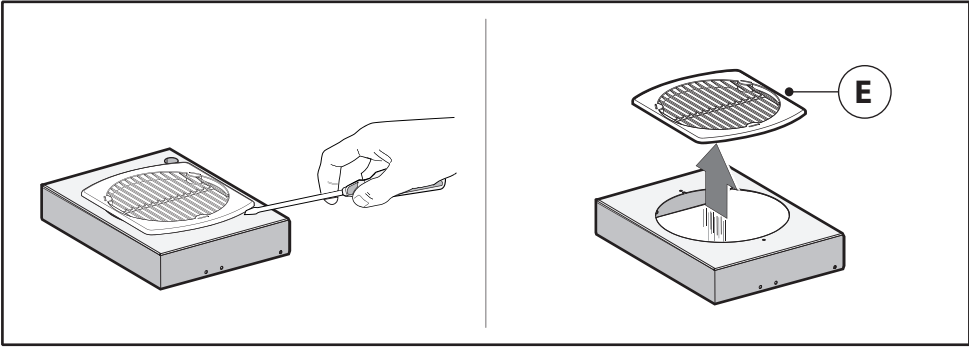

Fig.5
- Unhook the small cupola **M** and remove the grille **E (Fig. 5)**.